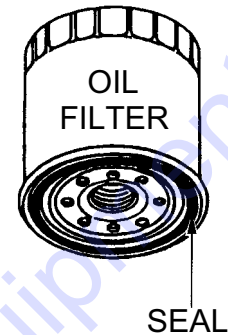

Figure 31. Oil Filter
1. Using a filter wrench, turn filter cartridge (Figure 31) to the left to remove it. If the filter cartridge is filled with a large amount of oil, wait 10 minutes or so before removing. Make sure there is no old gasket stuck on the filter holder.